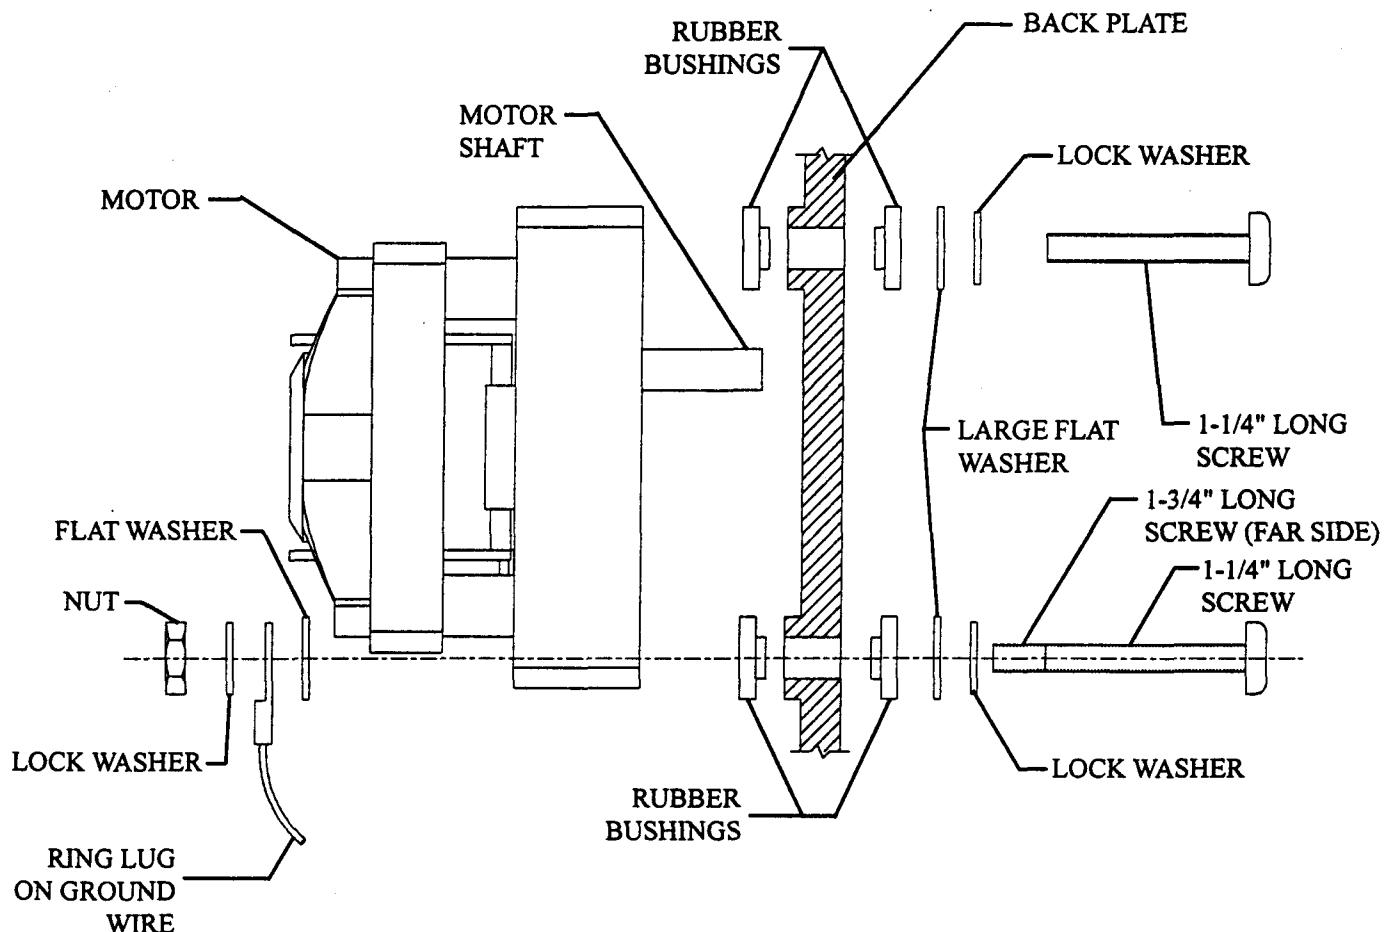

FIG. 3
4. Remove old motor (NOTE THE POSITION OF MOUNTING HOLES FOR PROPER MOTOR ORIENTATION) and replace with new motor using hardware supplied in this kit, as shown in Fig.'s 1 & 2. Attach the green/yellow ground lead to the longer of the four screws supplied using the nut and washers as shown in Fig. 3.